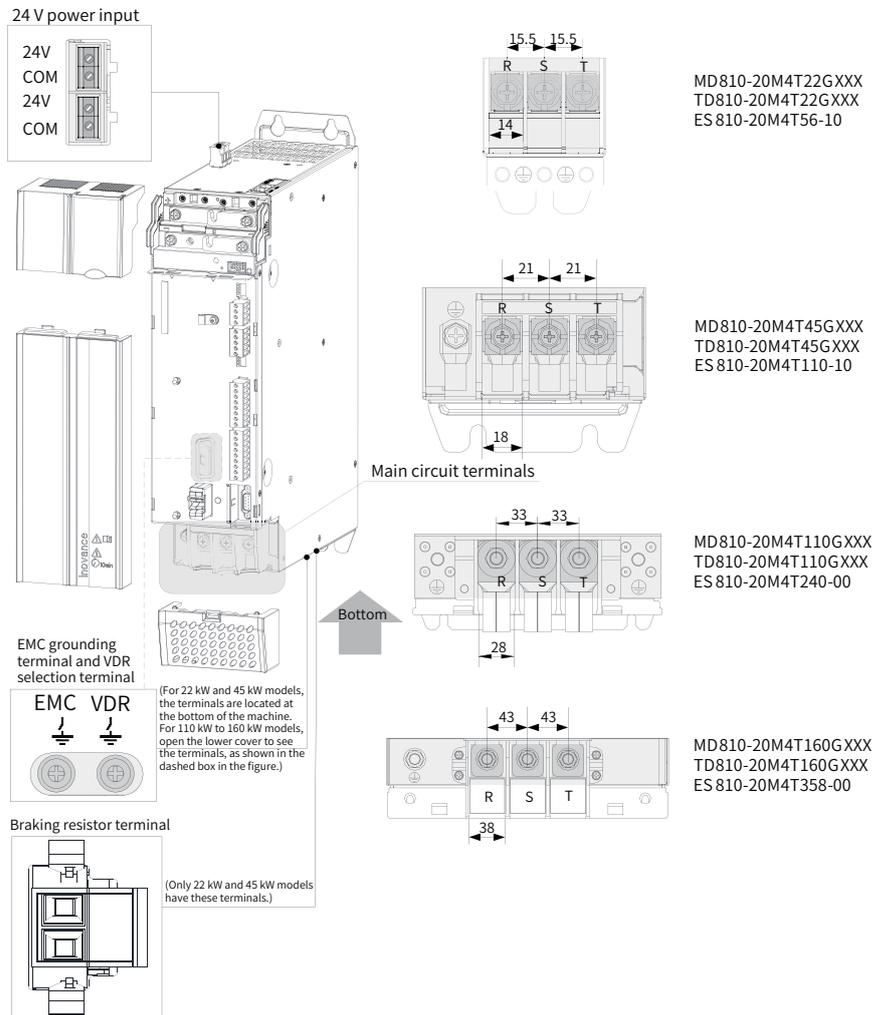
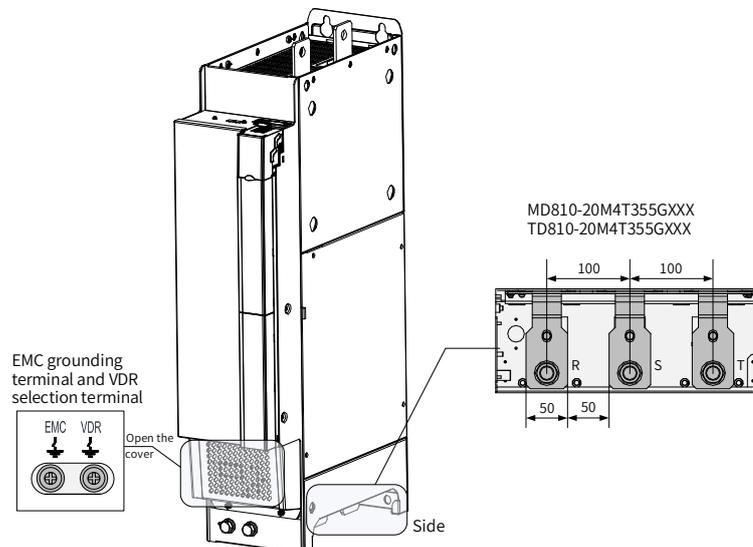

Figure 3-2 Terminal arrangement and size of the power supply unit (booksized, unit: mm)
Figure 3-3 Terminal arrangement and size of the power supply unit (vertical tower, unit: mm)
- Where a leakage circuit breaker is installed, if leakage protection trips during startup, the screw of the safety capacitor (EMC) jumper to ground may be removed. For specific locations of the VDR and safety capacitor (EMC) jumpers to ground, see "Figure 3-2 Terminal arrangement and size of the power supply unit \(booksize, unit: mm\)" and "Figure 3-3 Terminal arrangement and size of the power supply unit \(vertical tower, unit: mm\)".